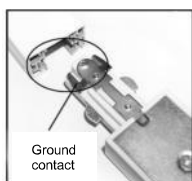

Fig. 1
1. The connector features two ground contacts on each side, but there is only one slot available on the left side of the 3-wire track. (Fig. 1)